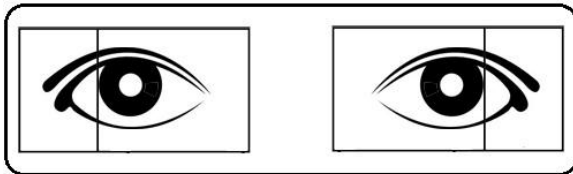

Figure 7a: Vertical lines are not yet moved.
4. The observer will move the black vertical line for each eye (fig. 7a) directly over the reflecting spot (white dot) in the pupil using the sliders on top of the device (fig. 7b).